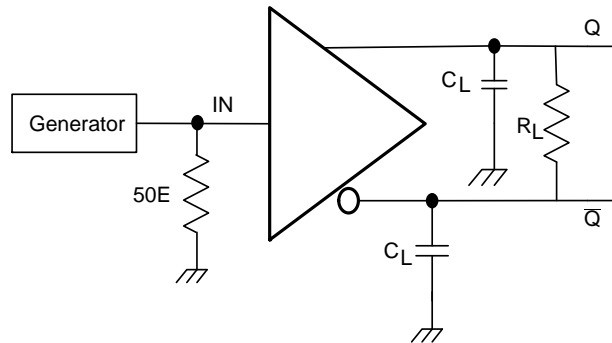

Figure 3. Propagation Delay & Transition Time Test Circuit for Differential Driver
5. Test Conditions for the above –  $R_L = 100 \Omega$ ,  $C_L = 15 \text{ pF}$  (includes Load & Jig Capacitance), Figures 3 and 4